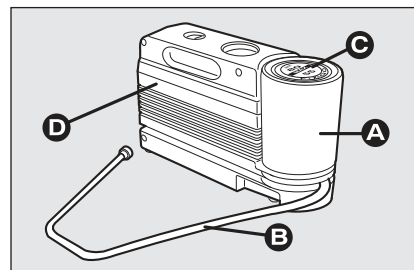

fig. 2
- bottle **A-fig. 2** containing sealer and fitted with:
- filling pipe **B-fig. 2**;
- sticker **C-fig. 2** bearing the notice "max. 80 km/h", to be placed in a position visible to the driver (on the instrument panel) after fixing the tyre;
- compressor **D-fig. 2** including gauge and connections;